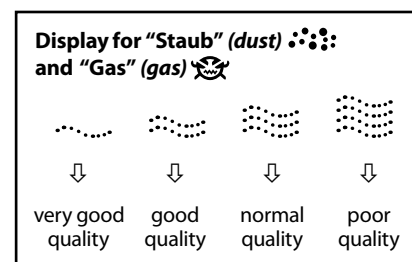

Fig. 1: Air quality as shown on the display (2)
6 Dust sensor (15) and gas sensor (16): The air quality measured is shown on the display (2) (dust, gas). The poorer the quality of the room air, the more wavy lines that will appear (see Fig. 1). In Automatic mode fan performance is automatically adjusted according to the air quality.
Very good, good, normal and poor (see Fig. 1).